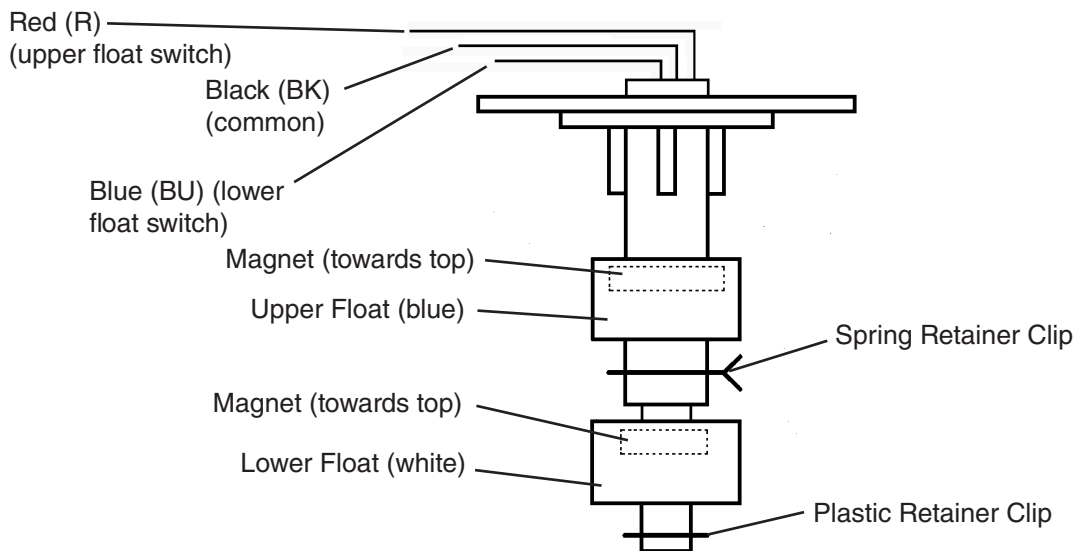

Fig. 6
- 4) Disconnect the molex plug from the control box and check continuity across FS wires. (BK) to (R) for UFS and (BK) to (BU) for LFS. See Fig. 6. With the water reservoir empty, FS switches are open. If open, continue to step 5. If closed, follow the steps in "II.E.2. Float Switch Cleaning." After cleaning the floats, check them again. Replace if necessary.
- 8) Disconnect the molex plug from the control box and check continuity across FS wires. (BK) to (R) for UFS and (BK) to (BU) for LFS. They should be closed. Clean or replace if necessary.
- 4) While not necessary, the floats can be removed from the shaft during cleaning. If you remove them, note that the blue float is on top. The floats must be installed with the magnets inside them towards the top of the switch. See Fig. 6. Installing the floats upside down will affect the timing of FS operation.